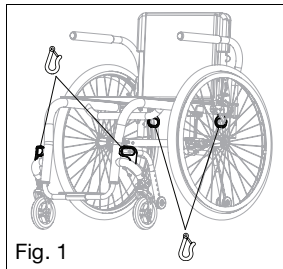

Fig. 1
- Attach the wheelchair tie-downs to the four securement points (two front, two rear) on the wheelchair with the transit option (Fig. 1) in accordance with the wheelchair tie-down manufacturer's instructions and RESNA WC-4, Section 18 or ISO 10542-1, - Part 1.